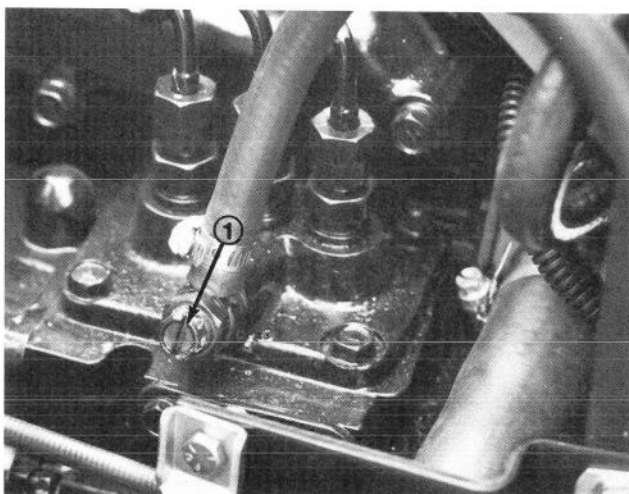

Figure 33
4. Open the air bleed screw on the fuel injection pump (Fig. 33) with a 12 mm wrench.